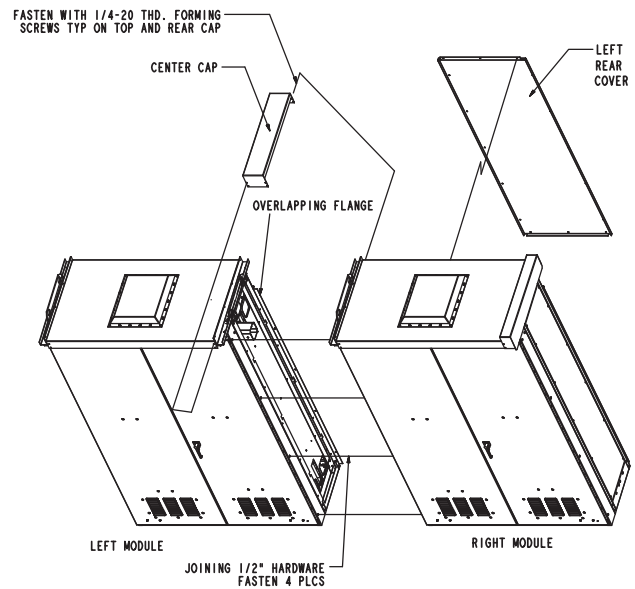

FIGURE 1
1. Remove left rear cover on right shipping module (Figure 1.) Save the screws for later reassembly of the cover. Note that the left module right rear cover has a flange that will be underneath the removed cover when it is replaced. This provides an overlapping connection in the rear of the two spliced modules (Detail C).
7. Attach center cap using (8) 1/4-20 x 5/8 thread rolling screws (Figure 1).